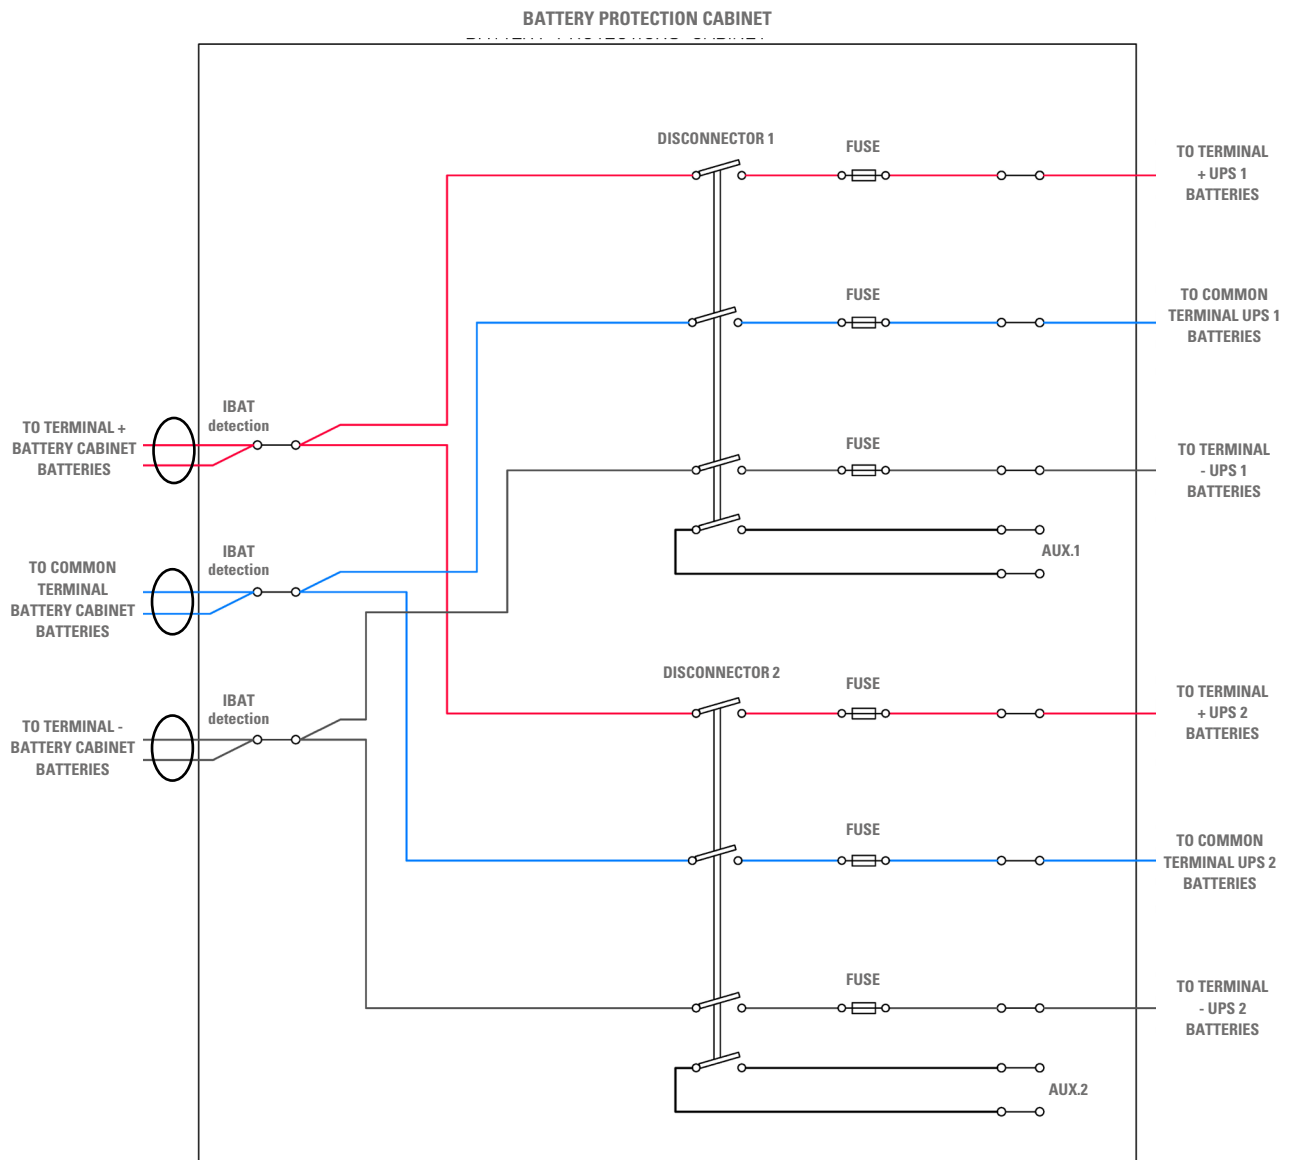

Fig. 52. Diagram of the protection board for the common battery.
- The common battery is connected to a protection board, the diagram for which is shown in Fig. 52 below: